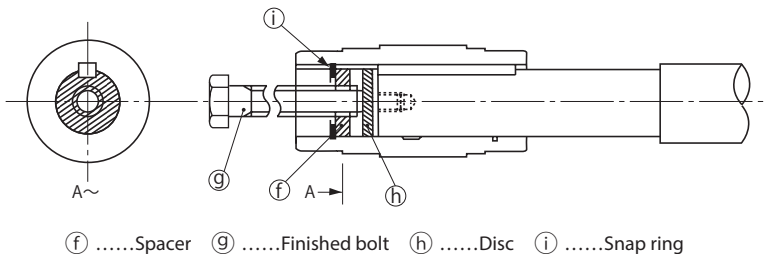

Figure 5-8 Removal Jig
(3) Removing from the driven shaft
- Be careful not to allow excessive force to apply between the case and the hollow shaft. Use a jig such as the one shown in Figure 5-8 to remove it more smoothly.